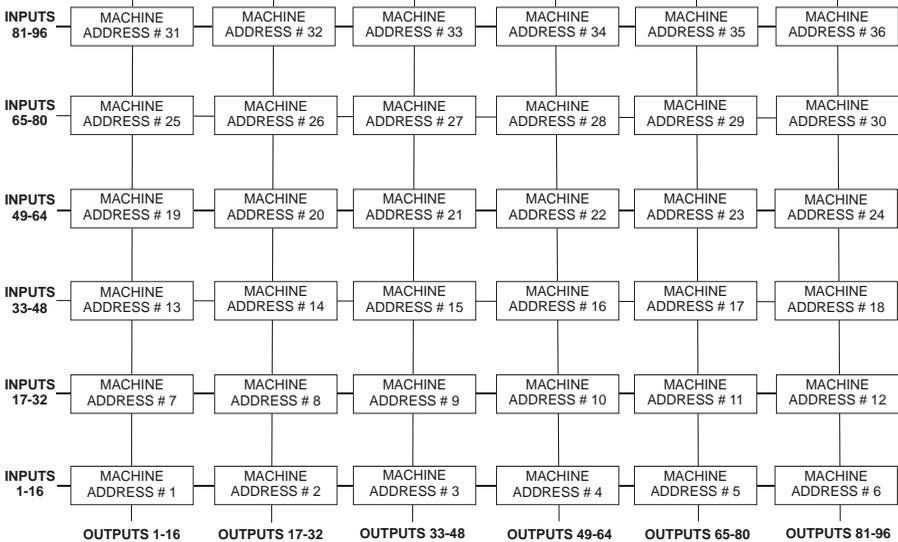
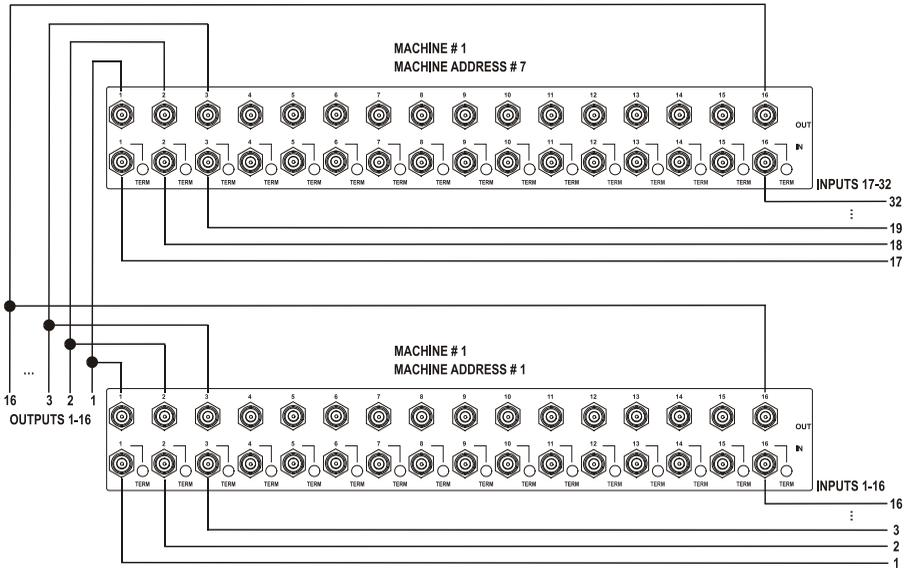
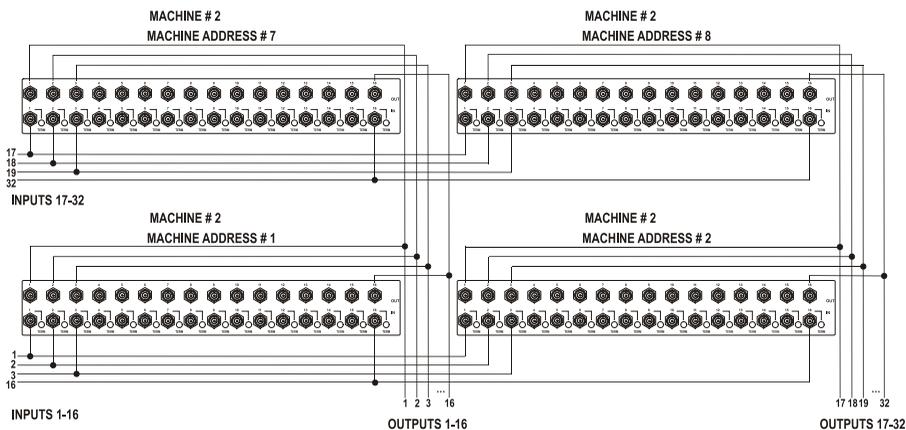

Figure 8: MACHINE ADDRESS # Designation
Figure 9: Configuring a 32x16 Switcher
Figure 10: Connecting the 32x32 Switcher
You can greatly expand the number of inputs and outputs using several **VS-162V** units1. To do this, you must set a unique **MACHINE ADDRESS #** (see section 8.3) on each **VS-162V** unit. This defines which inputs and outputs are configured to a particular unit, as the chart in Figure 8 illustrates.
For example, to connect a 48x64 switcher (48 inputs and 64 outputs), you would configure using **MACHINE ADDRESS #** 1, 2, 3, 4; 7, 8, 9, 10; 13, 14, 15 and 16. You can only choose a rectangular2 configuration from the chart in Figure 8.
A 32x16 switcher consists of two **VS-162V** units (MACHINE ADDRESS # 1 and MACHINE ADDRESS # 7), as shown in Figure 8. To make this configuration, as shown in Figure 9:
2. Set the MACHINE ADDRESS # on one **VS-162V** unit to 1 and on the other **VS-162V** unit to 7 (refer to Figure 8).
As shown in Figure 8, a 32x32 switcher consists of four **VS-162V** units (MACHINE ADDRESS # 1, MACHINE ADDRESS # 2, MACHINE ADDRESS # 7 and MACHINE ADDRESS # 8). To assemble, as shown in Figure 10:
2. Set the MACHINE ADDRESS # to 1, 2, 7 and 8 on each of the four units, respectively (refer to Figure 8).
1 Set to # 1 in most cases. In the example in Figure 10, the MACHINE # is set to # 2
- When configuring multiple **VS-162V** units or a matrix of **VS-162V** machines, the array is viewed as one large unit and the DIP-switches of all machines are set to the same **MACHINE#**. However, each machine is set to a unique **MACHINE ADDRESS #** with a menu command on its display panel according to the addressing rule shown in Figure 8
The MACHINE ADDRESS # is determined via the MACHINE ADDRESS Menu command, as section 11.4 describes. The MACHINE ADDRESS # defines which inputs and outputs are configured to that particular unit when expanding, as the chart in Figure 8 illustrates.